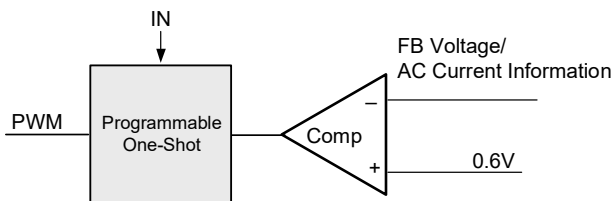

Figure 3. Simplified Control Schematic of AOZ2264NQI-11
The simplified control schematic is shown in Figure. 3. The high-side switch on-time is determined solely by a one-shot whose pulse width can be programmed by one external resistor and is inversely proportional to input voltage (IN). The one-shot is triggered when the internal 0.6V is higher than the combined information of FB voltage and the AC current information of inductor, which is processed and obtained through the sensed lower-side MOSFET current once it turns-on. The added AC current information can help the stability of constant-on time control even with pure ceramic output capacitors, which have very low ESR. The AC current information has no DC offset, which does not cause offset with output load change, which is fundamentally different from other V^2 constant-on time control schemes.